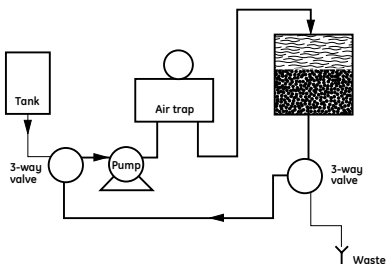

Fig 3. Equipment set up for pressure/suction packing.
5. When the bed has stabilized, the top of the bed should be exactly level with the top of the column tube. At this point, exclude the buffer tank from the system by simultaneously switching the valve at the column outlet and the valve on the suction side of the pump, as shown in Figure 3.